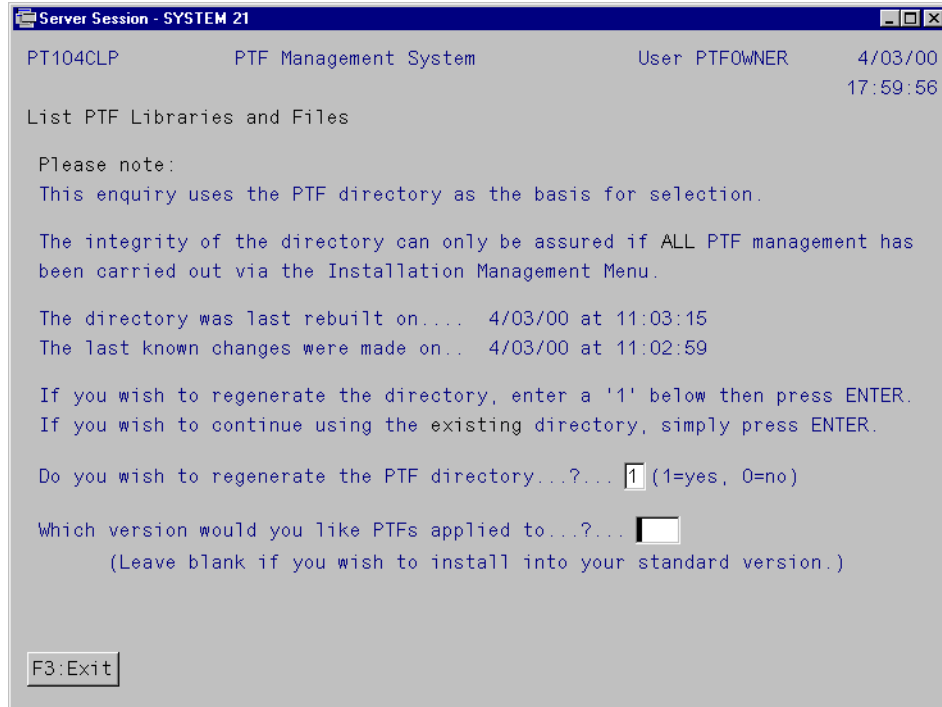

Figure 103. Regenerate PTF directory option display
2. From the PTF Management System Main Menu, select option **1** (Enquire On/Install PTFs). If you just restored a PTF library, you have to regenerate the PTF directory as shown in Figure 103 on page 198.
3. If you restored PTFs onto your system, set the Do You Wish To Regenerate The PTF Directory field to `1` (Yes). See Figure 103 on page 198.